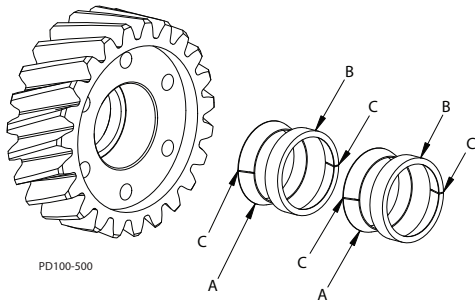

Figure 60 - Locking Element Assembly
3. The locking elements (Figure 61, item 25, detailed in Figure 60) consist of a slit inner ring and a slit outer ring. For proper performance, the elements must be assembled in the following order: inner ring (A), outer ring (B), inner ring (A), outer ring (B); with the slits in the rings (item C) staggered 180° apart as shown in Figure 60.